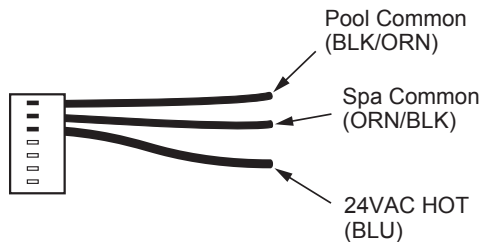

Figure 54. 7-Pin Remote Interface Harness
5. On the “Remote Interface Harness”, connect the BLUE wire to one side of the “REMOTE” switch and connect the other side to either the ORANGE/BLACK wire for “SPA” operation or the BLACK/ORANGE wire for “POOL” operation. See **Figure 54**.
4. On the “Remote Interface Harness” connect the BLUE wire to one side of the “REMOTE” switch and connect the ORANGE/BLACK wire for “SPA” operation and the BLACK/ORANGE wire for the “POOL” operation. See **Figure 54**.